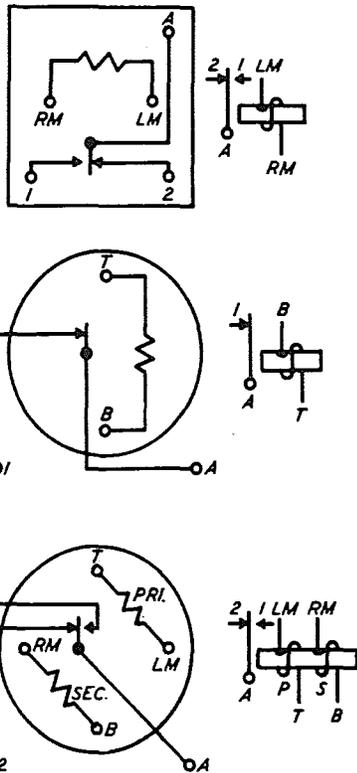

FIG. 16- WINDING AND SPRING TERMINAL ARRANGEMENT AS VIEWED FROM THE REAR (TERMINAL SIDE)- 114 124, 126, 174 AND 198 TYPE RELAYS
2.33 The front contact is indicated by 1, the armature by A and the back contact by 2 except on relays having only a back contact in which case the back contact is indicated by 1 and the armature by A. Fig. 16 shows the relative location of the winding terminals of these relays, as viewed from the rear, when mounted with the retractile spring at the right. The test clip data specified on the circuit requirement table is based on this position of mounting. If the relay is mounted with the retractile spring in any other position, the test clip data should be translated to care for this position of mounting.